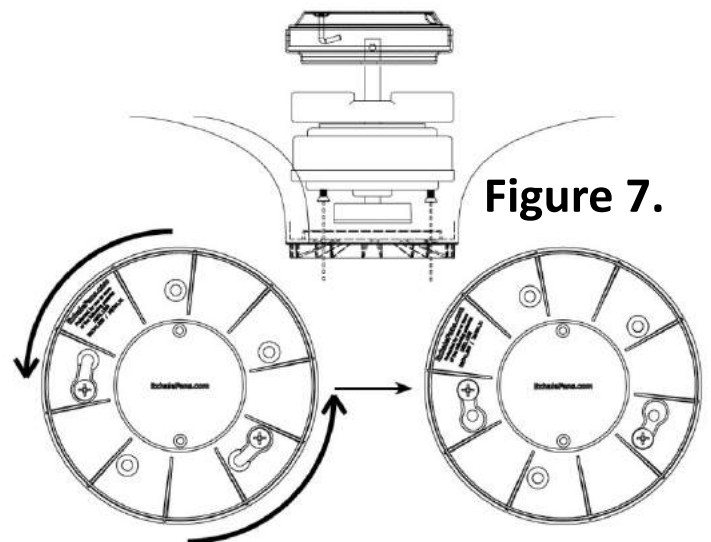

Figure 7.
- c. Rotate the entire disc array counter clockwise to lock the screws into the disc array as shown in figure 7.